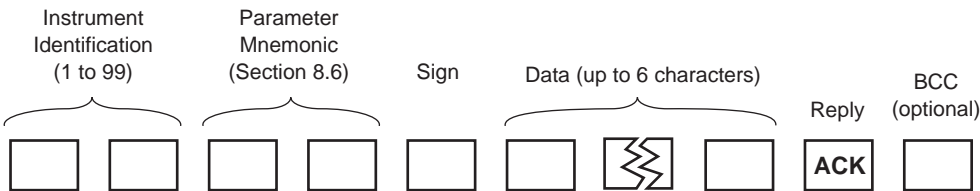

Fig. 8.4 Reply Format (Command Understood)
8.3 Reply Format – Figs 8.4 to 8.6
The 4600 Transmitter replies to the command using the reply format shown in Figs. 8.4 to 8.6.